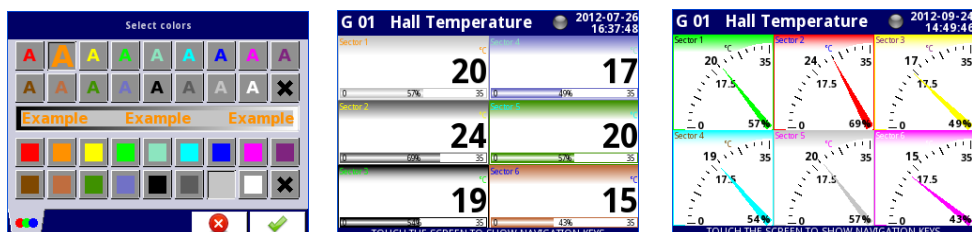

Fig. 7.122. Style color select screen and examples of views with changed styles
- **Style** – defines color which will be used to draw logical channel selected in this **Slot**. User can specify font color in channel (except value color) and drawing color of all elements connected with channel visualisation (see Fig. 7.122). Using black **X** buttons user can return to default settings.